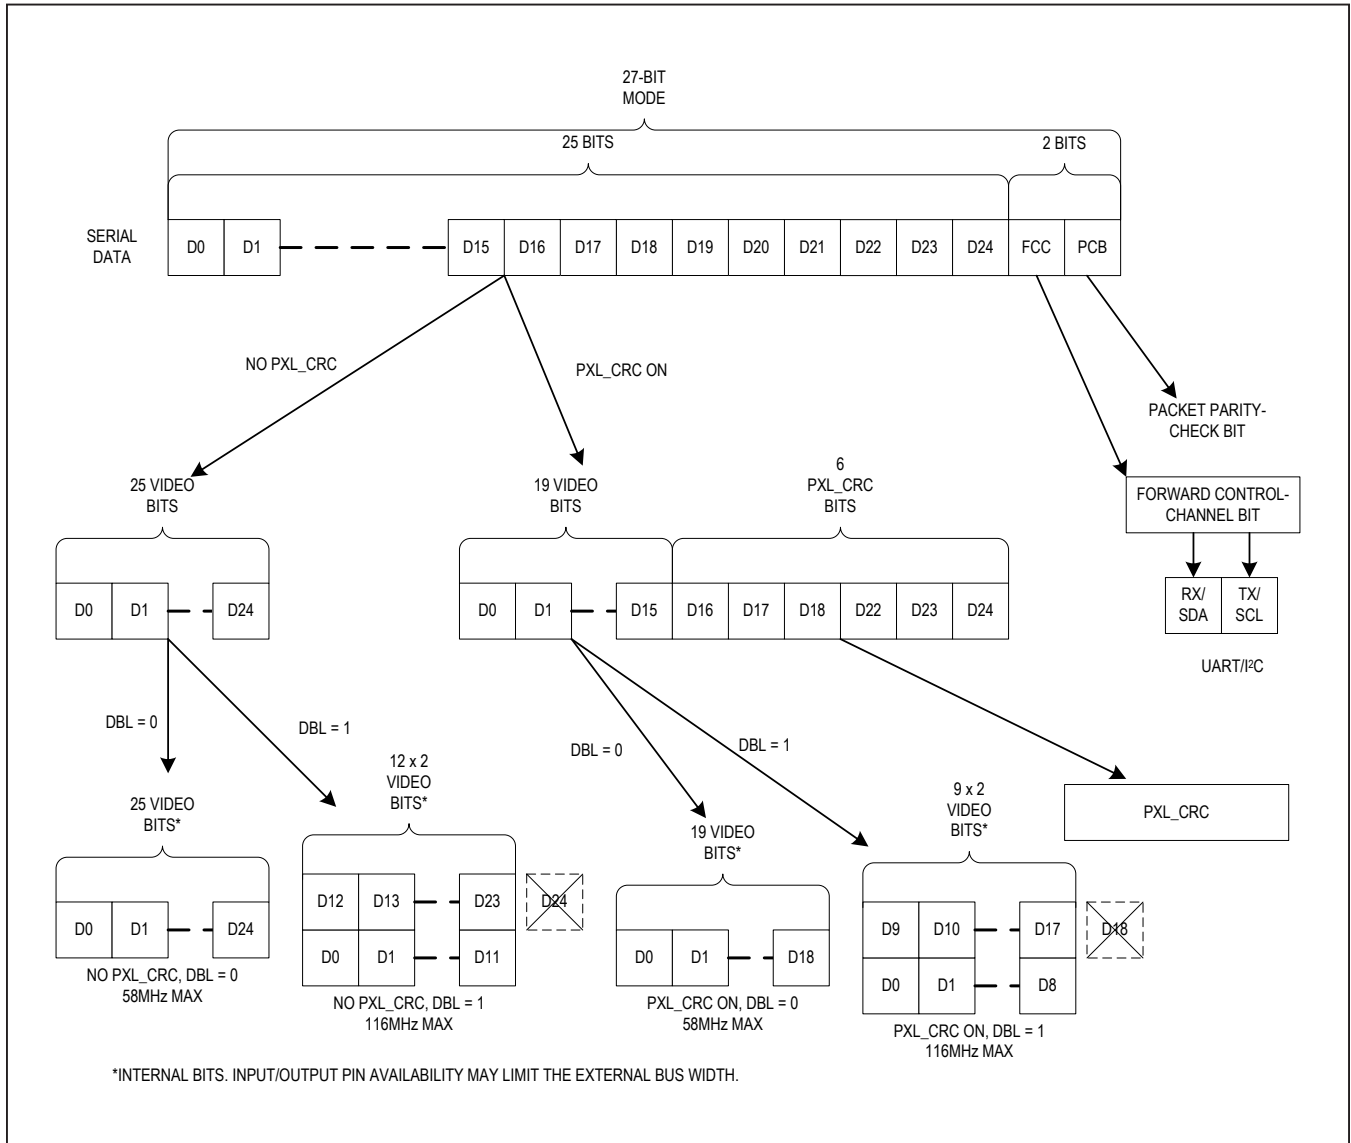

Figure 15. 27-Bit High-Bandwidth Mode Serial-Data Format
**27-Bit High-Bandwidth Mode (Figure 15)**